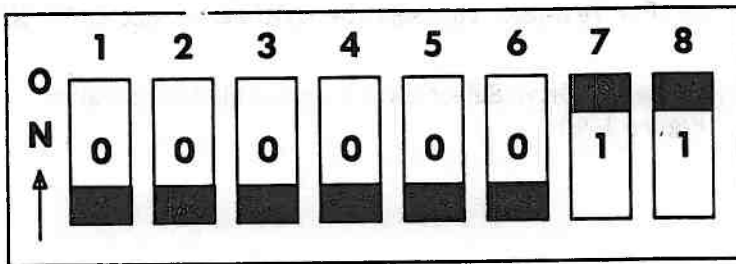

Figure 3-39. DTC Hard Disk Controller DIP Switch Settings for 10-MB Disk
14. The switch settings for a 10-MB disk are shown in Figure 3-39.